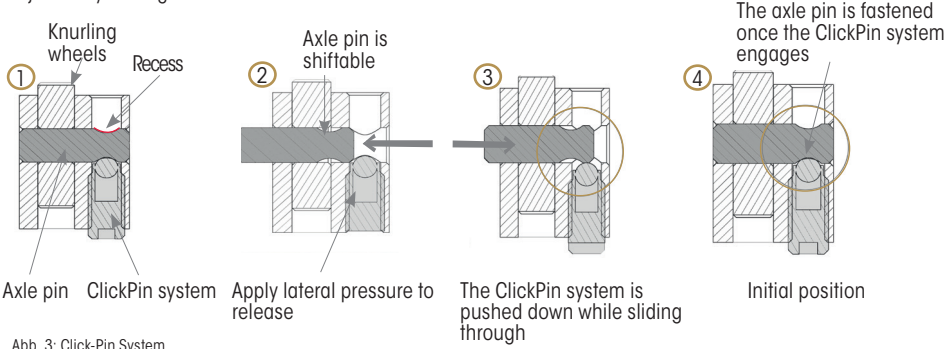

Abb. 3: Click-Pin System
① Assembly of the knurling wheel with ClickPin system
The ClickPin system clamps the axle pin in a surrounding recess (Fig. 3, ref. 1). The axle pin is already pre-assembled upon delivery. With signs of wear, the axle pin can be replaced by pushing it to the side by hand (Fig. 3, ref. 2). This will disengage the ClickPin system and the axle pin can be removed. Slide the new axle pin into the hole (Fig. 3, ref. 3) until the ClickPin system engages in the surrounding notch (Fig. 3, ref. 4). If necessary, the ClickPin system can be adjusted by turning.